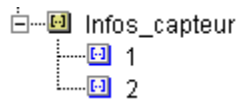

Figure 132 : Versions of a type
- ◆ Click on  to display the versions (Figure 132),
Warning : If several model versions exist, only in the last version is duplicated. To duplicate another version of the type, user must select the right version in the type tree structure (Figure 132) before launching the command **Model ... → Duplicate**.
When the new type version has been created, it is stored in the equipment library (Figure 132) below the previous model version.